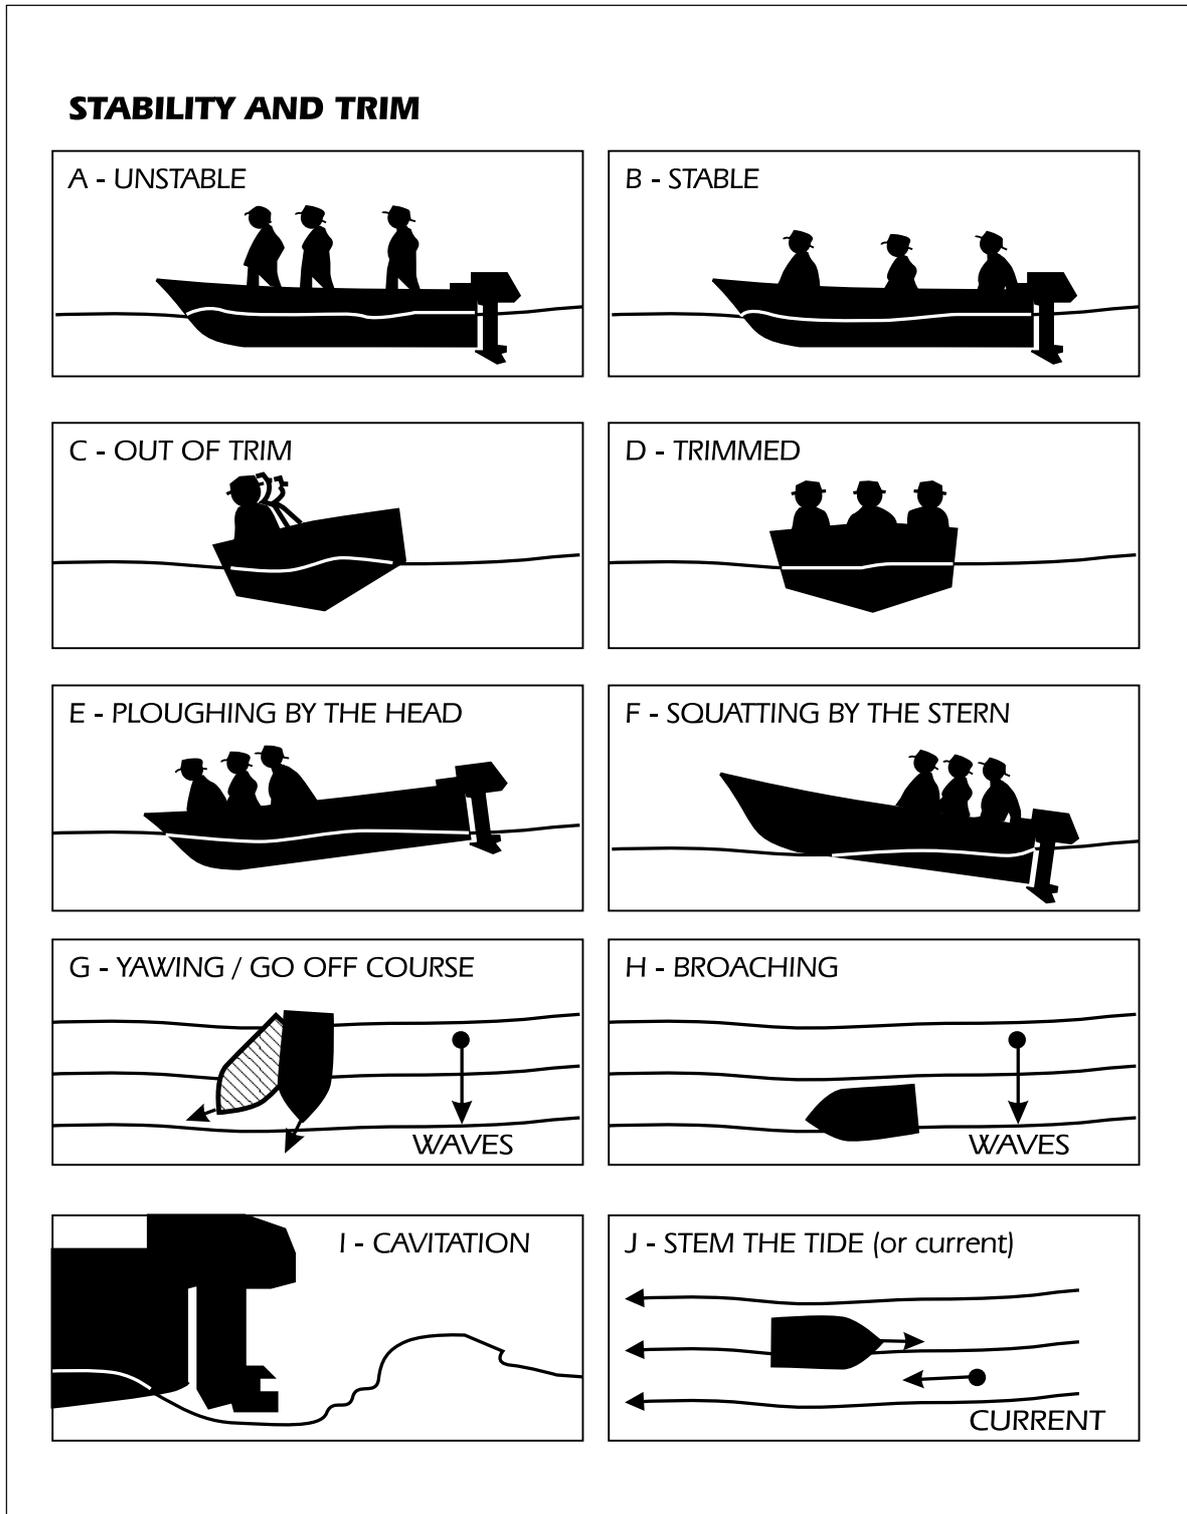

Figure 5:5—Terms Relating to Boat Stability and Trim
- (1) **Aboard**—Inside or on a boat.
- (2) **Adrift**—Broken from mooring, at the mercy of wind and tide.
- (3) **Amidships**—Is the centre of the vessel either with reference to her breadth or length.
- (4) **Awash**—Level with the water surface.
- (5) **Aweigh**—When the anchor is broken out of the ground.
- (6) **Bearing**—A direction or in a direction.
- (7) **Belay**—To secure a rope to a cleat or belaying pin. (Also to stop what you are doing).
- (8) **Broaching**—When a boat yaws too widely and swings broadside on to a wave.
- (9) **By the Head**—When a boat is loaded too heavily forward or the bow lies low down in the water, it is said to be ‘Down by the Head’. (See Figure 5:6).
- (10) **By the Stern**—When a boat is loaded too heavily aft or the stern lies lower than usual, it is said to be 'down by the stern'. (See Figure 5:6).
- (11) **Aeration**—Often referred to as **cavitation**, this is aeration of the water causing loss of propeller drive and efficiency. Aeration is often caused by the motor being fitted so that the propeller operates too close to the surface.